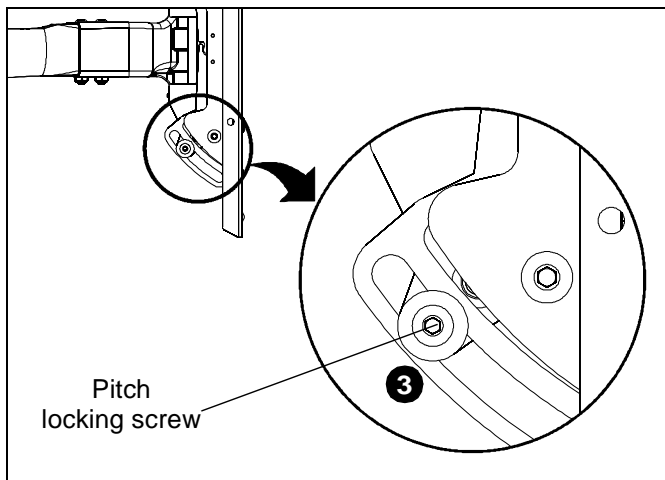

Figure 9
3. To lock the mount at the desired position, tighten the pitch locking screw. (See Figure 9)